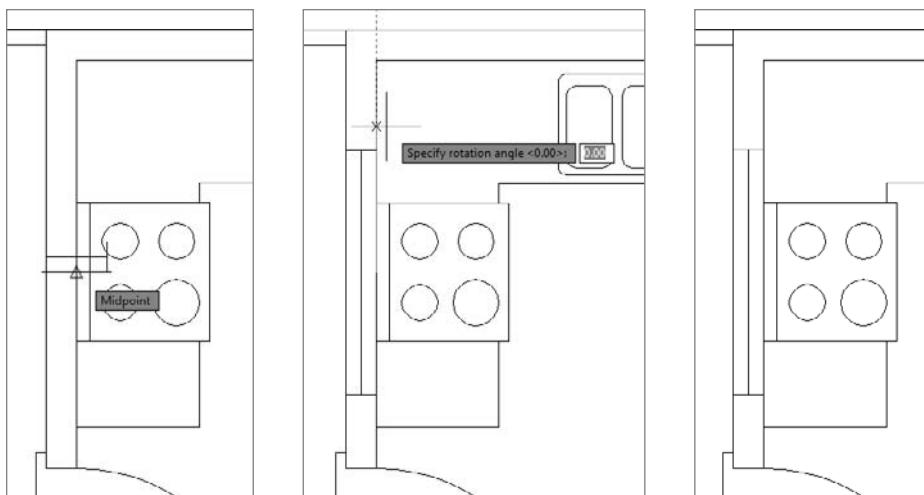

FIGURE 7.32 Selecting the stove’s midpoint as the insertion point (left), rotating the A-GLAZ block 90° (middle), and the final position (right)
9. Move the cursor along the inside wall line near the midpoint of the stove. The stove line overlaps the wall line and the midpoints of each are close together. Make sure the cursor is over the stove's midpoint (the lower of the two, as shown at the left of Figure 7.32), and then click.
11. From the **Specify rotation angle** prompt, move the cursor so that it's directly above the insertion point. The Polar Tracking lines and tooltip appear (see the middle image of Figure 7.32).
The A-GLAZ block appears in the left wall. The **INSERT** Block command ends (see the right of Figure 7.32).